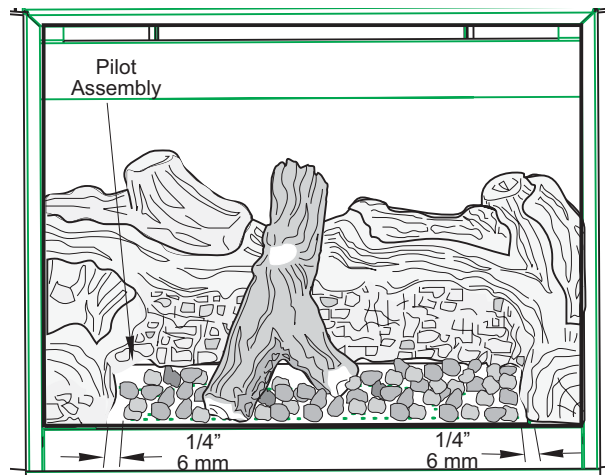

Figure 29. Middle Log and ember stones in place.
Locate the Middle Log as shown in fig. 29.
**2. PILOT FLAME:** You can monitor the pilot flame through the opening at the upper left corner burner skirt, under the rear log. See fig. 29. The pilot flame should be steady - not lifting or floating. The flame should be blue in color around the pilot hood, with traces of yellow toward the outer edges.